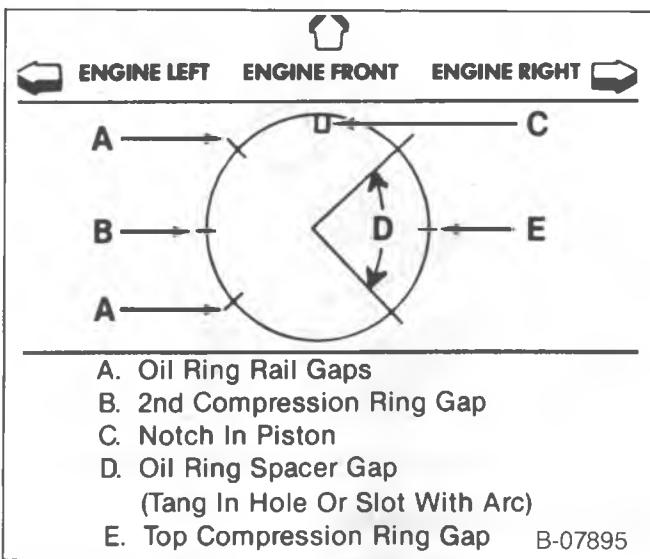
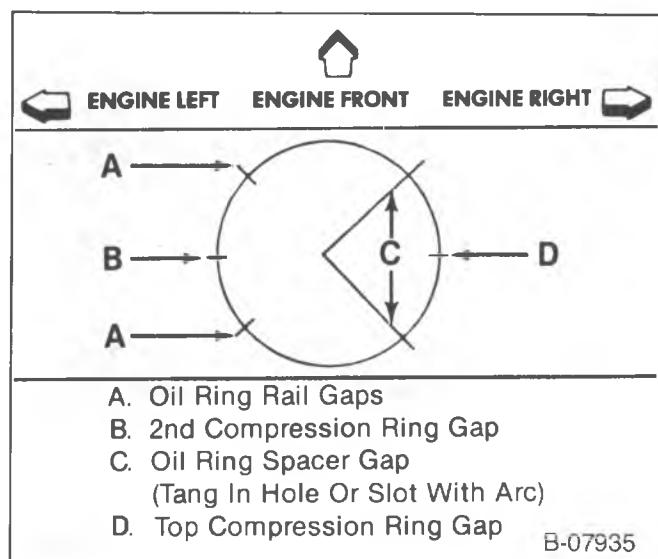

Figure 62—Piston Ring End Gap Location
Figure 63—Piston Ring End Gap Location
→ Install or Connect (Figures 62 through 65)
- Locate the piston ring end gaps as shown in figure 62 (5.0 L and 5.7 L engines) or figure 63 (7.4 L engines).
- On 5.0 L and 5.7 L engines, the notch in the piston crown (figure 62) must face the front of the engine.